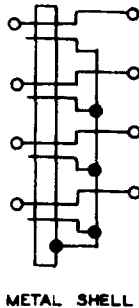

Fig. 13—315A or B, or 316A Plug
2.12 315A and B, and 316A: The 315A and B, and 316A (Fig. 13) are four finger plugs with the sleeves and shells connected together to form a shield for the tip conductors. The plugs are used with four 218A- or similar-type jacks, or two 410-type jacks, when mounted on 0.625 inch centers on 230D- or similar-type jack mountings.